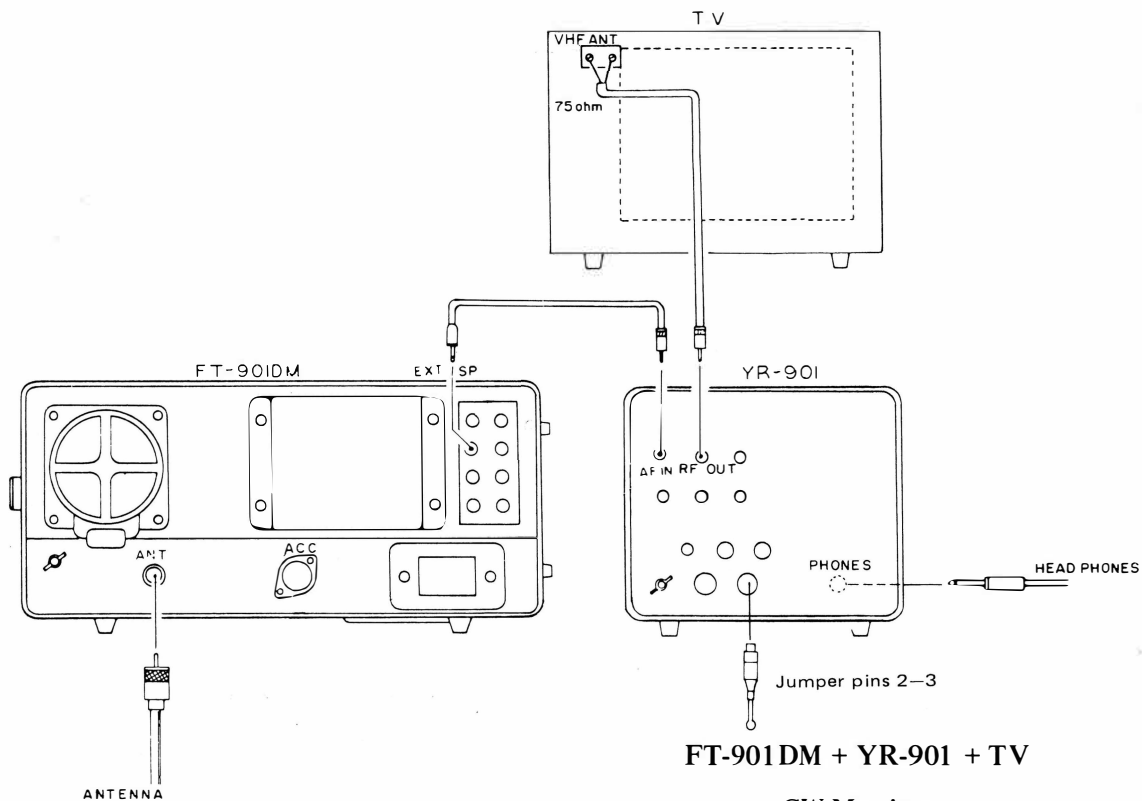
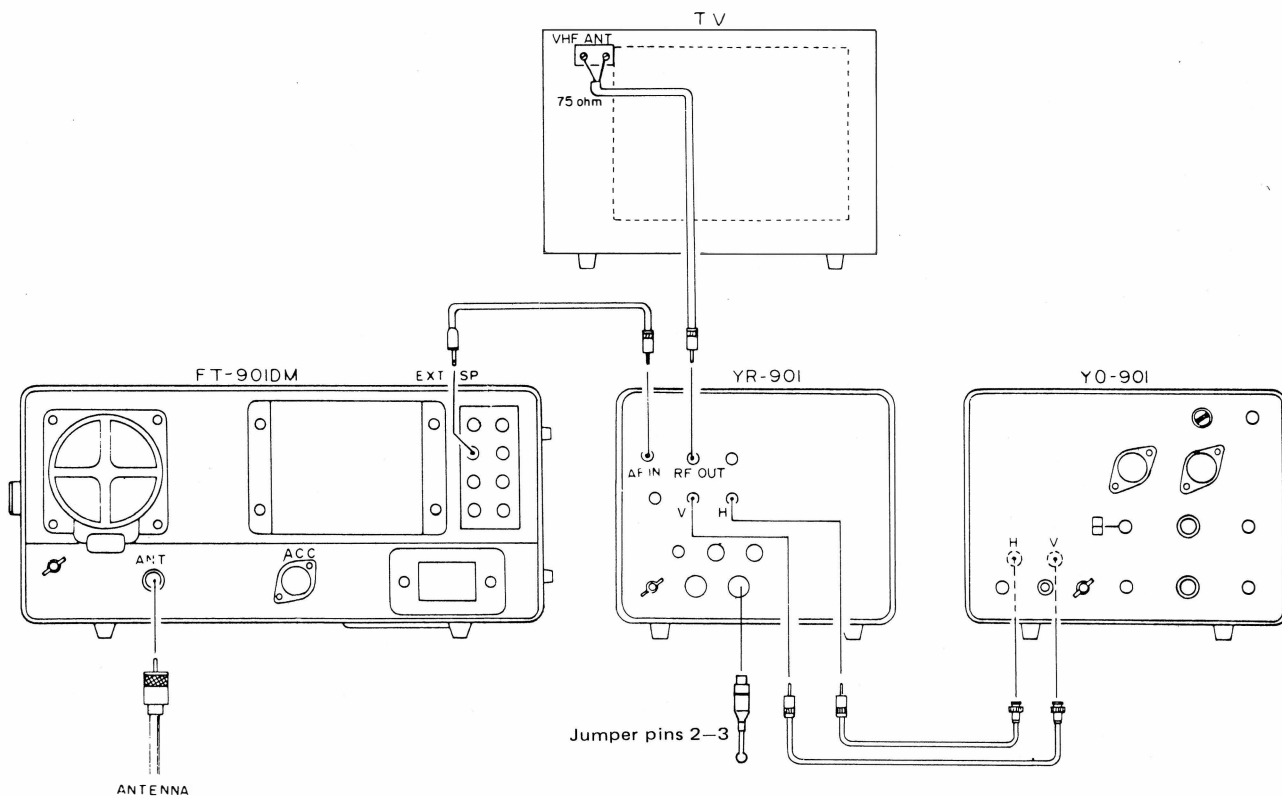

Fig.5
Fig. 7 FT-901DM/YR-901/YO-901/TV
Connect the YR-901, the station receiver, and the TV monitor as shown in Figures 5 and 6. When using the video modulator to drive a home television, see page 18 for details on switching between channels 3 and 4 for output from the video modulator. The output impedance from the YR-901 RF OUT jack is 75 ohms, so a balun must be installed to provide a 75 ohm to 300 ohm unbalanced to balanced feed for those televisions using 300 ohm feed only. The video modulator is an available option. See your Yaesu dealer.
- (1) Set up the YR-901 and station equipment as shown in Figures 5 and 6. If it is desired to use a monitor scope such as the YO-901, Multi-scope for cross pattern monitoring of the RTTY signal, please refer to Figure 7 for interconnection details.
- (2) Preset the controls and switches as follows: